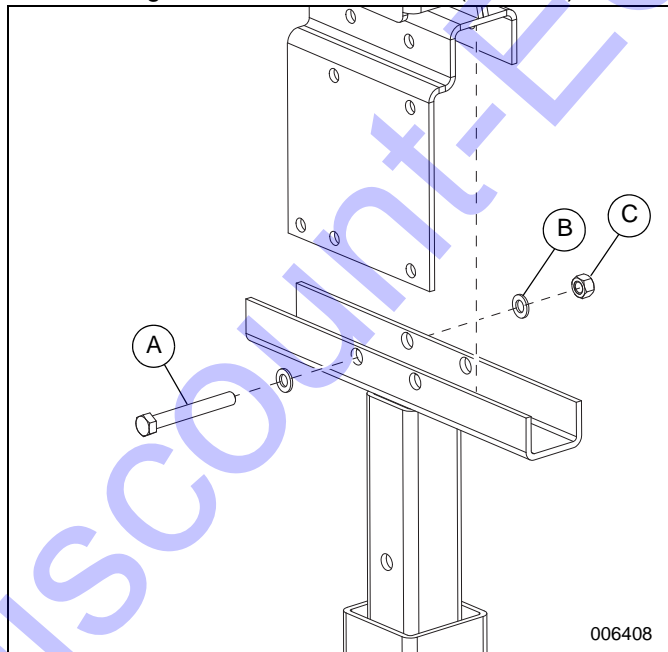

Figure 12. Bracket/Light Fixture Installation to Mast
7. See Figure 12. Install bracket-plus-light-fixture to mast. Tighten hardware to 20 ft-lb (27.2 Nm).